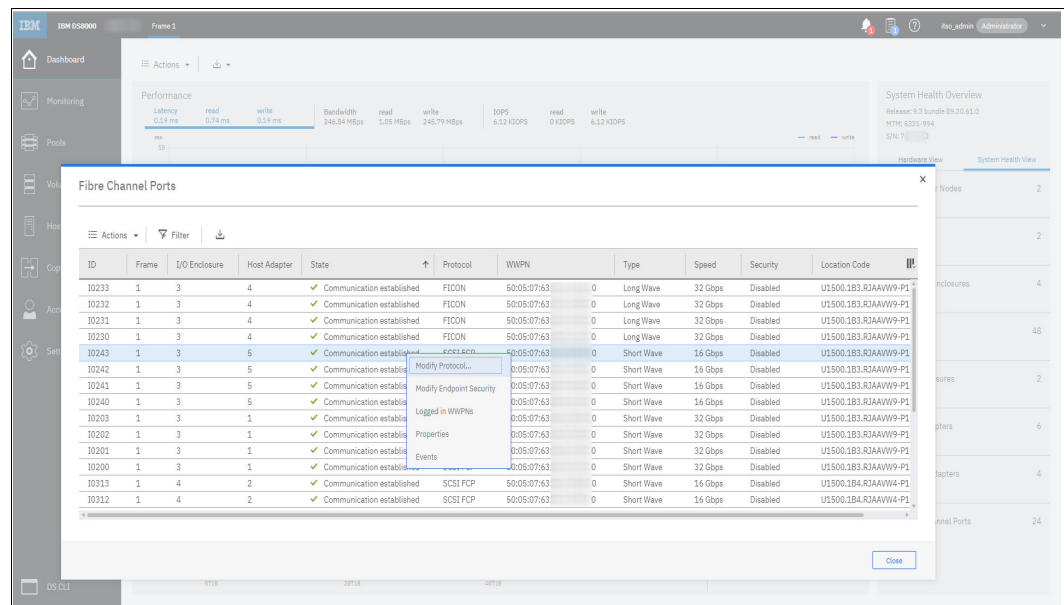

Figure 9-10 Modifying the FC port protocol from the System Health overview
- You can also configure the port topology from the System view or from the System Health overview, as shown in Figure 9-10.